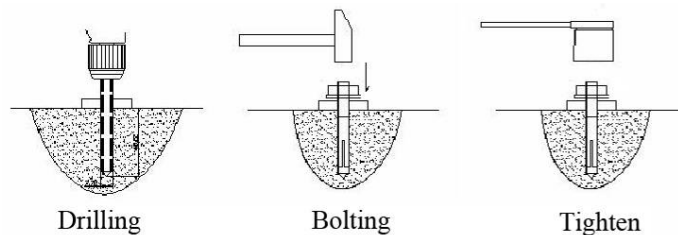

Fig. 24
2. Use a hammer drill with a 3/4" (19mm) masonry bit and drill all the anchor holes. Install the anchor bolts with a hammer. Tighten the Anchor Bolts between 85 and 110 foot pounds (See Fig. 24).